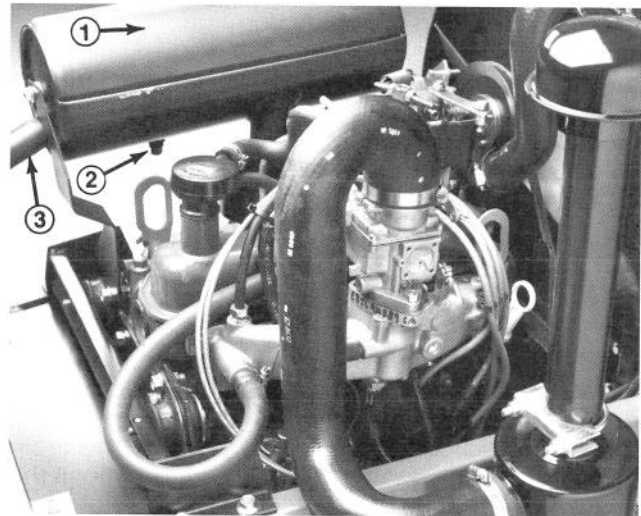

Figure 42
2. Remove pipe plug from clean-out port at lower side of muffler (Fig. 42).
3. Start engine. Plug the normal muffler exit with block of wood or metal plate so exhaust flow will be forced out of the clean-out port (Fig. 42). Continue to block exit until carbon deposits cease coming out port.